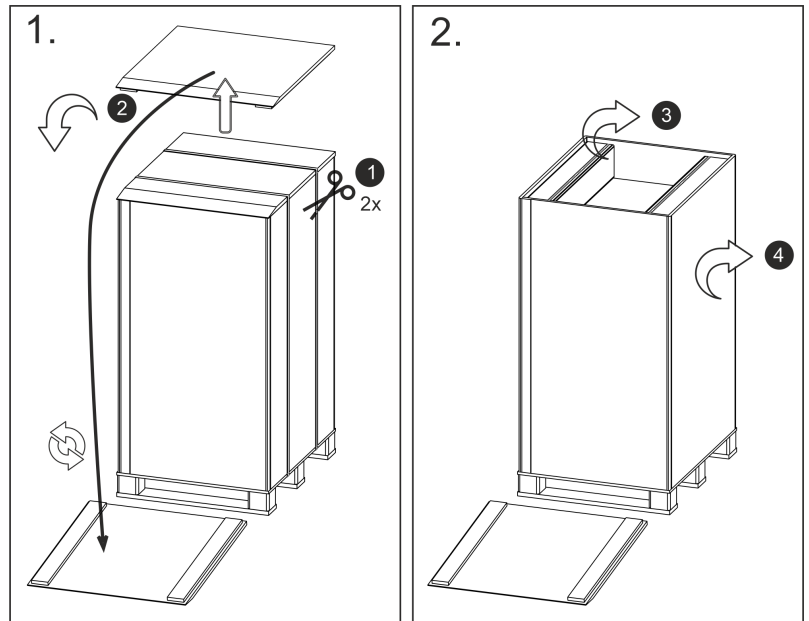

Fig. 2: Graphic of unpacking instructions for VC 5000
3. **Fig. 2:** Remove the two spacer blocks ③ from the box. Remove the box ④.